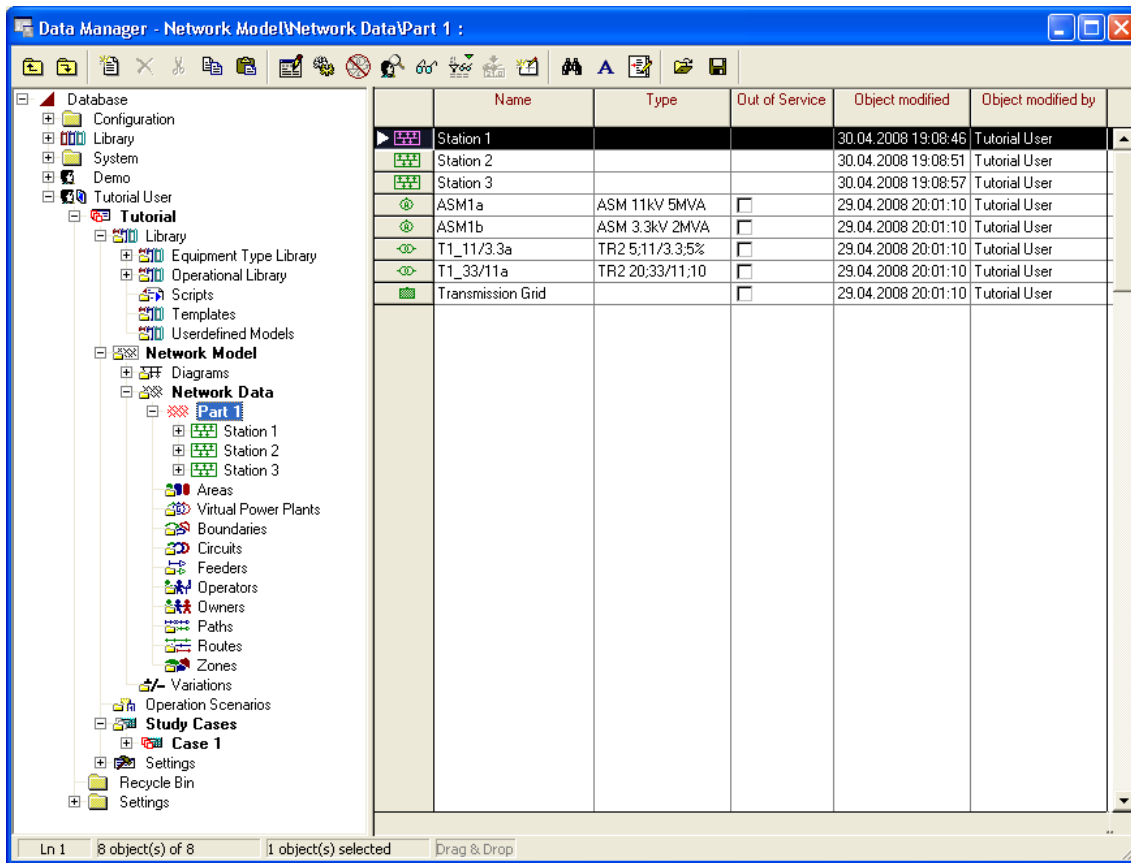

Fig. E.1: The Data Manager
- ▶ Press the button 'New Data Manager' () on the main icon bar. A Data Manager window, as depicted in the figure E.1, will be opened.
An open folder will show its status by a small minus sign (-). Left clicking this sign will close the folder. In the figure E.1, the folders "Tutorial User", "Tutorial" (project), "Library", "Network Model" etc. are open, the folders "Equipment Type Library", "Operational Library" and so on are closed. The "Part 1" folder is selected in the tree, and its contents are thus shown in the browser on the right.